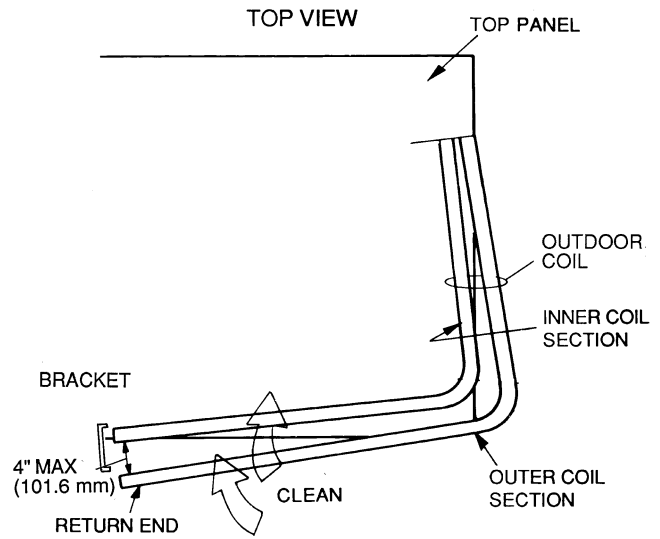

Fig. 14 — Separating Coil Sections
4. Remove bracket holding coil sections together at return end of outdoor coil. Carefully separate the outer coil section 3 to 4 in. from the inner coil section. See Fig. 14.